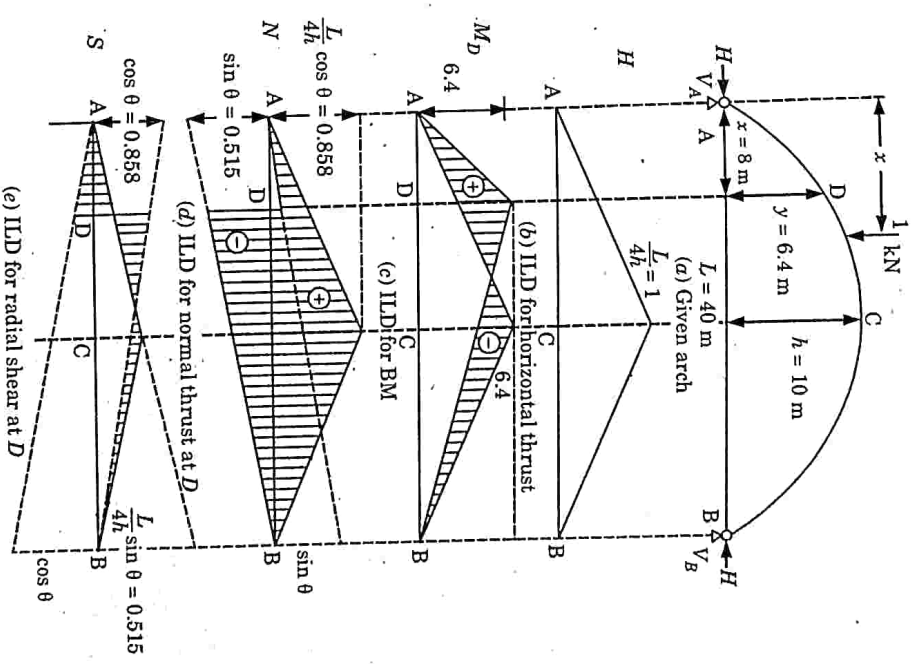

Fig. 5.20.1.
- vi. ILD for horizontal thrust is shown in Fig. 5.20.1(b). This is an isosceles triangle having an altitude equal to  $\frac{L}{4h} = \frac{40}{4 \times 10} = 1$  unit.